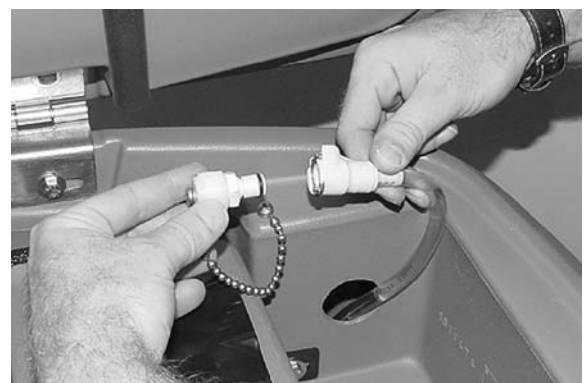

FIG. 12
3. When the supply hose is not in use, make sure to connect it to the storage plug (Figure 12). This will prevent the FaST system from drying out and clogging up the supply hose.